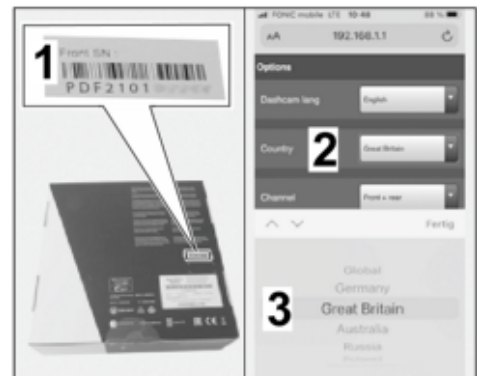

Figure 25
- 5.3.2 Select country (⇒ Figure 25).